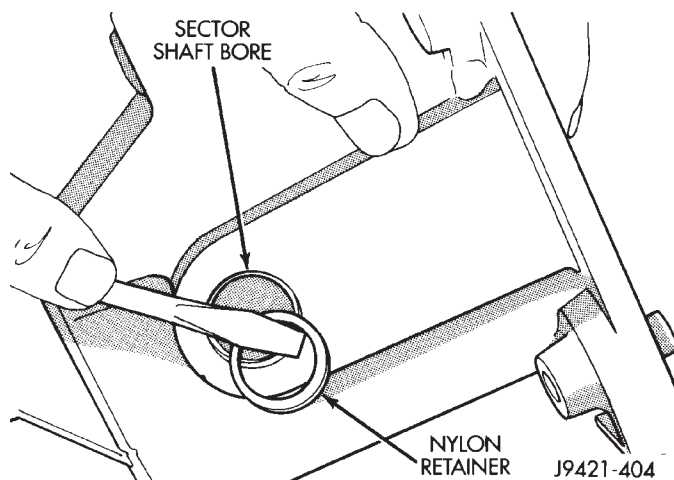
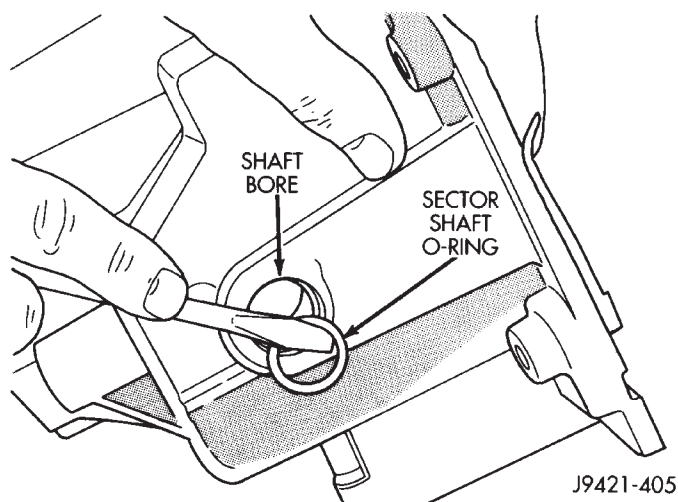

Fig. 40 Removing Shift Sector O-Ring Retainer
Fig. 41 Removing Shift Sector O-Ring
(26) Remove sector shaft O-ring retainer (Fig. 40), and O-ring (Fig. 41).